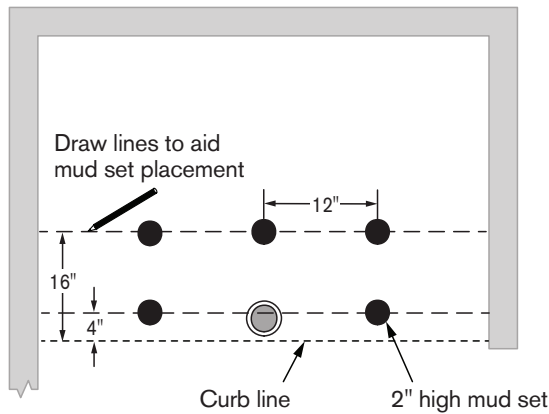

Figure 6
- 12 Before applying the mud set, mark the floor with the pattern and spacing shown below. (Figure 6)